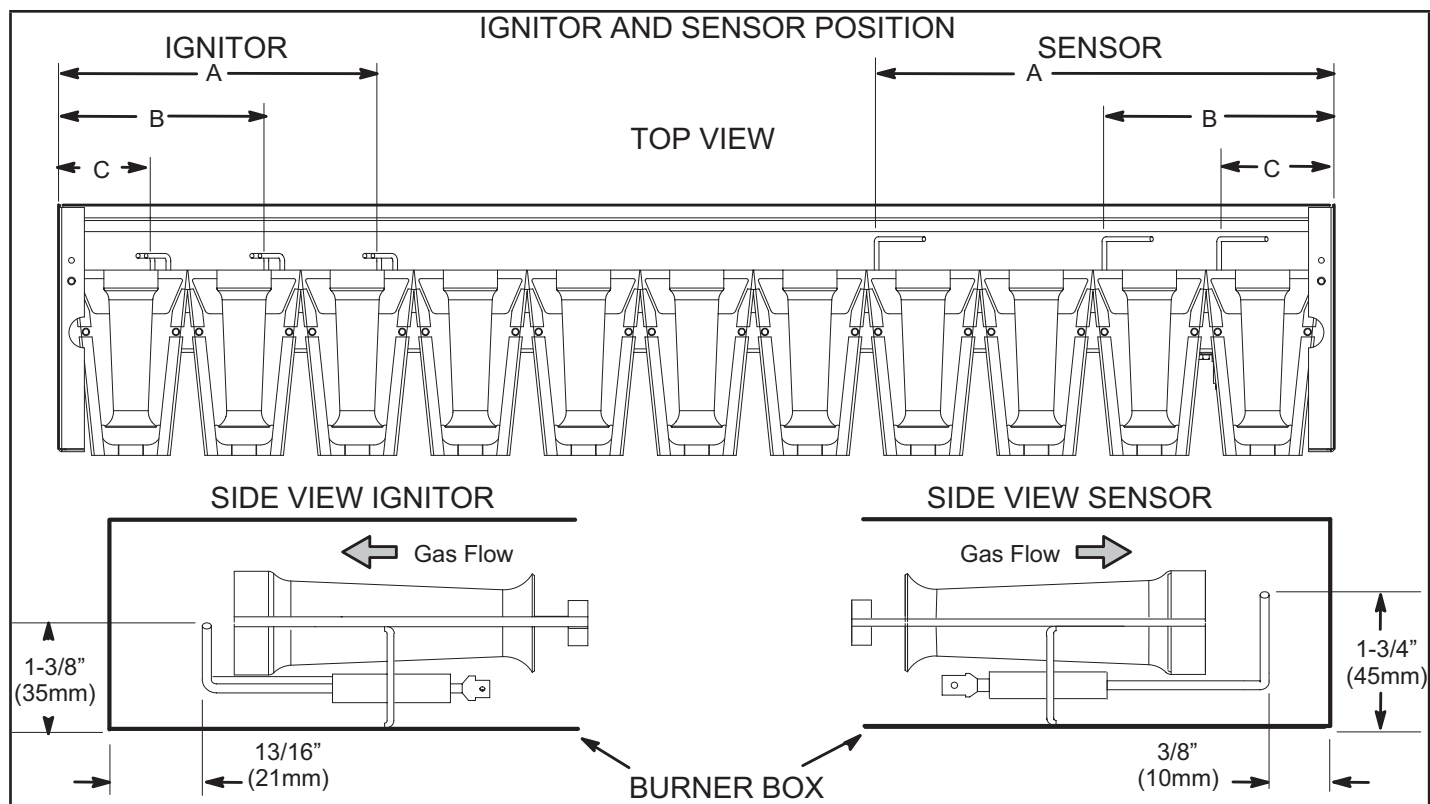

FIGURE 48
- 5 - Check the alignment of the ignitor and the sensor as shown in FIGURE 48 and TABLE 24.